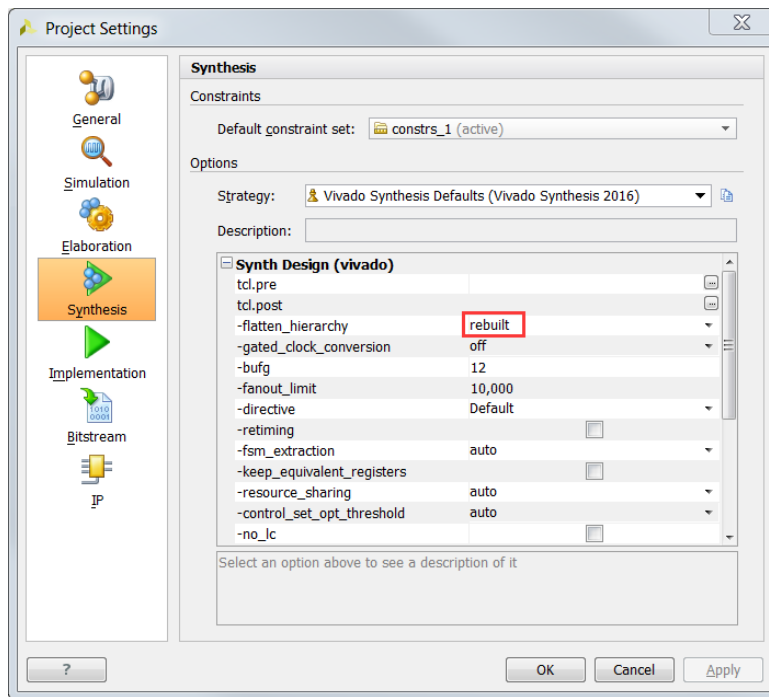

Figure 7. Setting hierarchy to rebuilt
- 3-1-2.** Make sure that the *flatten_hierarchy* is set to **rebuilt (Figure 7)**, which allows the design hierarchy to be flattened for synthesis and then rebuilt, which is more useful for design analysis because many logical references will be maintained.